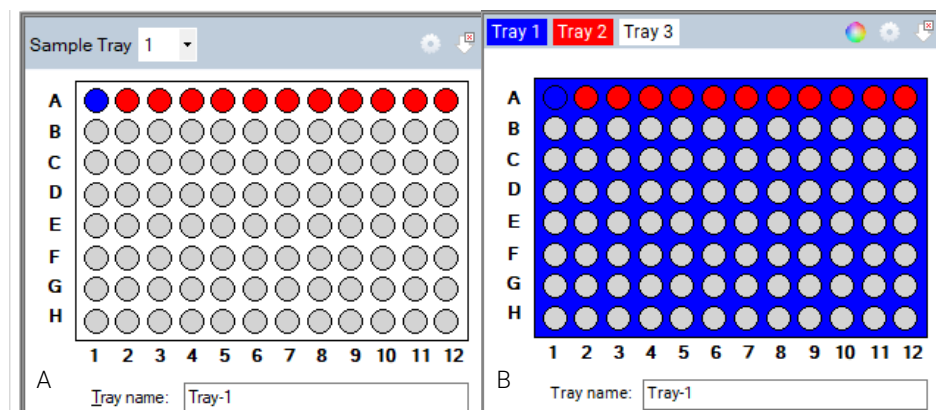

Figure 40 Classic drop-down tray selection (left), and colored tab tray selection (right).
Select the sample tray to be used from either the **Sample Tray** drop-down list or the colored tab tray selection, depending which configuration is set (**Figure 40**).
The configuration can be set by selecting the  icon located in the upper right corner of the window shown in **Figure 40**.
- 2 Choose between the sample tray drop-down list or the colored tab tray selection as shown in **Figure 40**.
- 4 To select a row from the 96-well plate depicted in the sample/sample tray window, left-click once in that row (**Figure 40**). To select a new row left-click on another row.
- 5 To clear a row selection, select . (**Figure 40**)
The **Tray name** dialog box allows you to input a name for the tray being run (**Figure 40**). Alternatively, select this dialog box and use a barcode scanner to import sample names for the plate being run (for more information, refer to **Chapter 9**, “Fragment Analyzer - Sample Name Entry”).